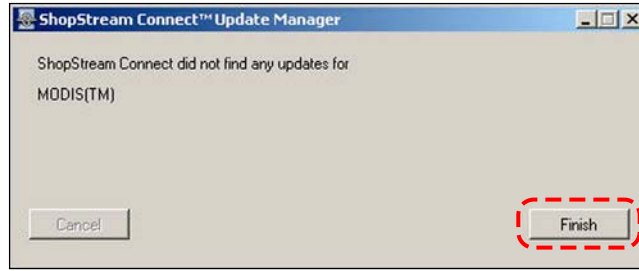

Figure B-12 Sample no updates available screen
- a. If no upgrades are available, an updates not found message displays (Figure B-12). Select **Finish** to close the Update Manager, then skip ahead to Step 7.